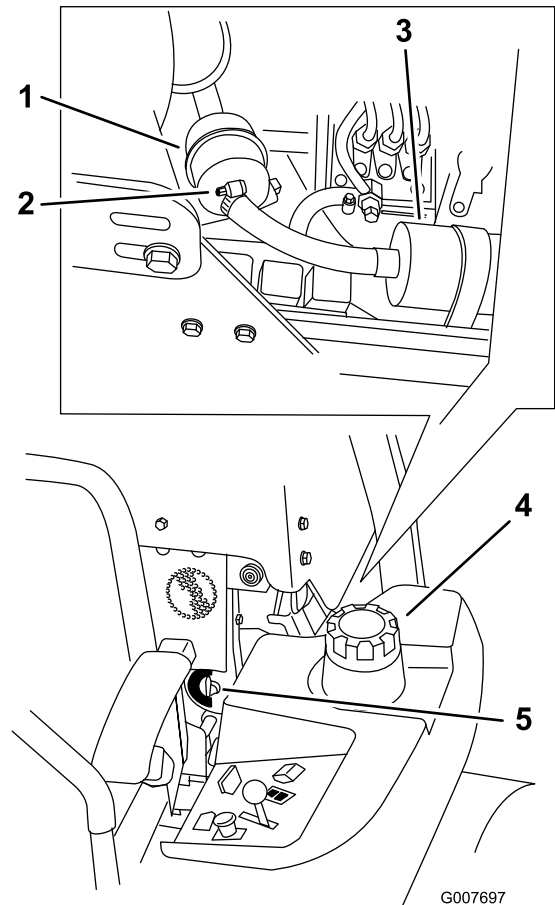

Figure 66
4. Close the fuel shut-off valve (Figure 66).
5. Loosen the 2 hose clamps and disconnect the fuel lines from the fuel filter (Figure 66).
6. Install a new filter. Connect the fuel lines to the fuel filter and install the 2 hose clamps (Figure 66).